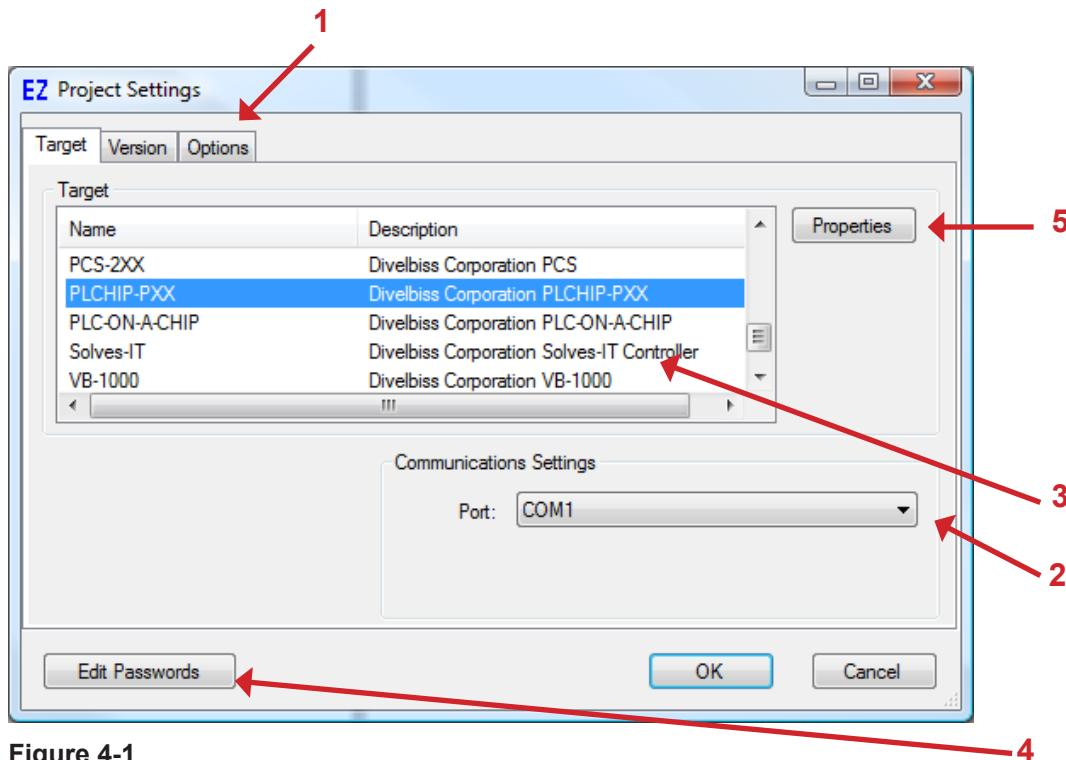
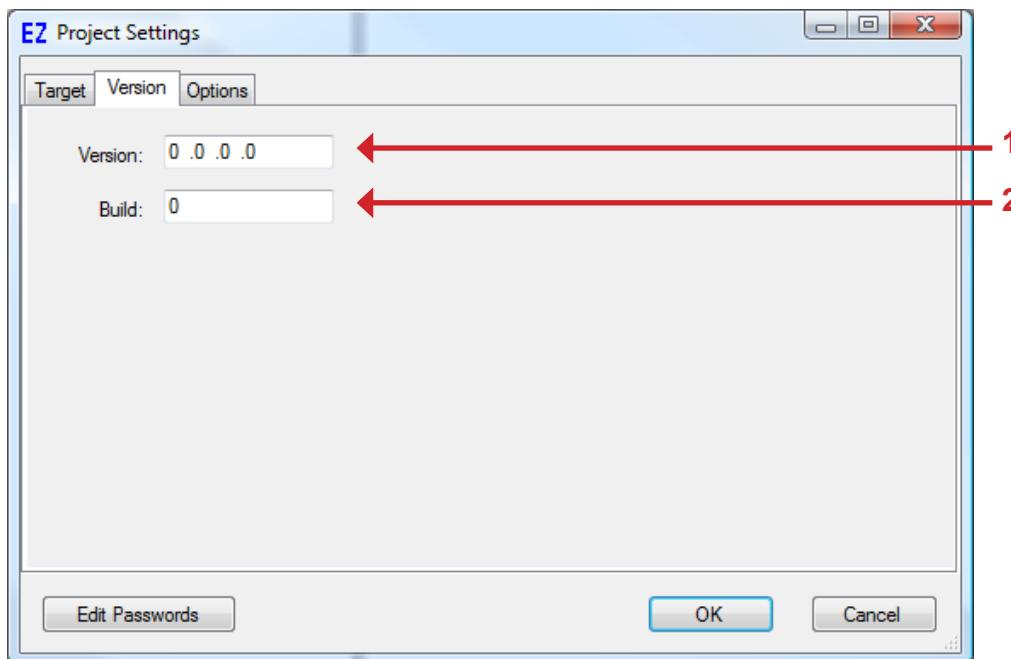
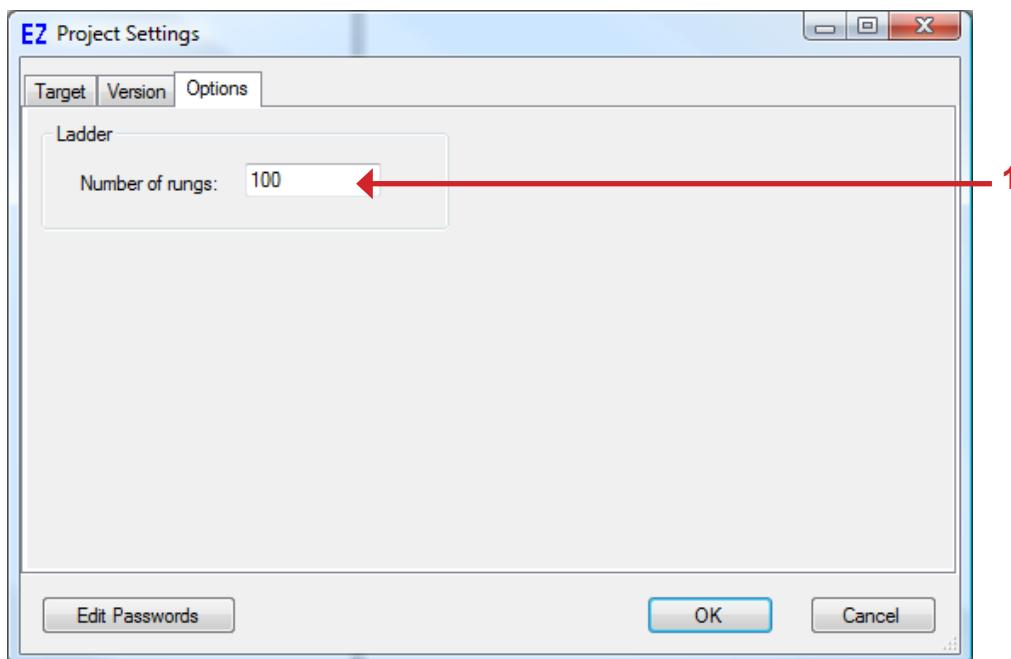

Figure 4-1
Figure 4-2
Figure 4-3
To select the target, either try to place a ladder diagram object in the workspace or use the **Project Menu** and click **Settings**. The Project Settings Window / Dialog box will open. Figure 4-1 is an example of the Project Settings Window and identifies the main components of it.
- 1. Project Setting Tabs:** Select the appropriate tab to configure target settings. Figure 4-1 represents the **TARGET** tab, Figure 4-2 represents the **VERSION** tab, and Figure 4-3 represents the **OPTIONS** tab. Clicking on a tab selects the tab for viewing.
The Version Tab will display the current build and version of the ladder diagram that is currently active in the EZ LADDER Toolkit. The build and version information is useful when determining if a program version is current. Figure 4-2 shows the Version settings tab of the Project Setting Window. Version setting may be changed in this window, if required.
The Options Tab will display the currently selected options and preferences. Some of these options are target specific while others are standard. Figure 4-3 shows the Options settings dialog box.